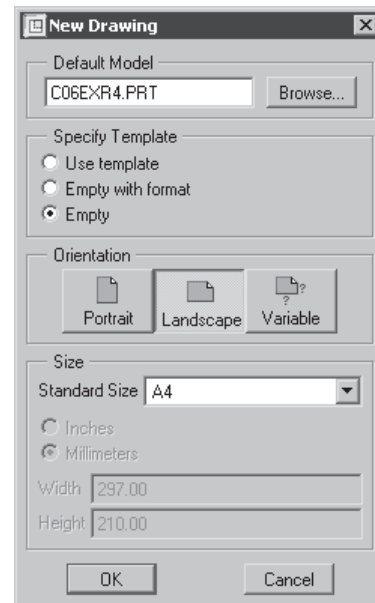

Figure 11-43 The **New Drawing** dialog box with the **Empty** radio button selected
6. Choose the **Landscape** button from the **Orientation** area, if it is not chosen by default, as shown in Figure 11-43.
2. Specify the placement point for the first view close to the top left corner of the sheet, as shown in Figure 11-43. As soon as you specify the point, the **Drawing View** dialog box is displayed along with the preview of the drawing view in the default orientation. From the **Model view names** list box, select the **TOP** option and choose the **Apply** button. The default view is oriented as the top view.